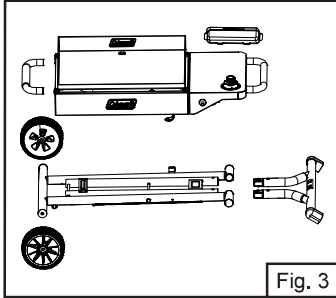

Fig. 3
1. Inspect and remove all components from package (Fig. 3).